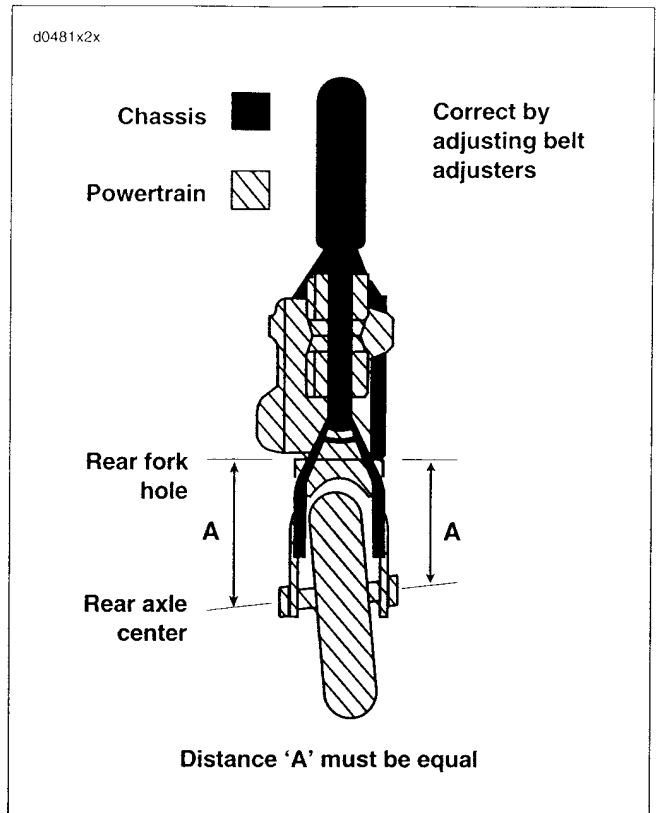

Figure 2-63. Rear Wheel Misaligned
5. See Figure 2-63. The measurement between the center of the rear axle and the rear fork hole must be equal to within 1/32 in. on both sides of the motorcycle. If it is not, adjust the rear wheel with the axle adjusters to accomplish the equal measurement. It is extremely important that this adjustment be made as accurately as possible in order to make the remaining adjustments accurate.